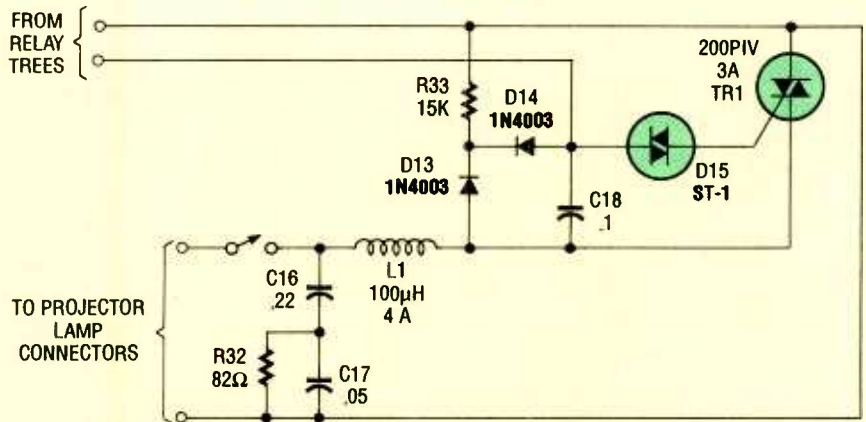

Fig. 5. The Triac lamp dimmer circuits are controlled by the relay trees and they, in turn, control the projector lamps.
**Triac Lamp Dimmers.** Figure 5 shows the schematic diagram for the Triac lamp-dimmer circuit; two such circuit are required (one for each projector). The dimmer circuits are controlled by the relay trees, which, in turn, control the projector lamps. The dimmer circuit (which was taken from General Electric Triac-application literature) differs from the common run of lamp dimmers in that it has extra components to prevent hysteresis effects.